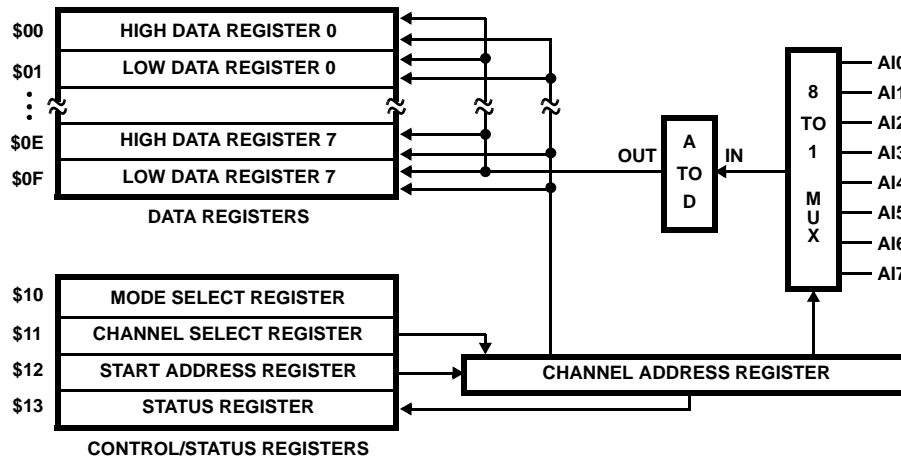

FIGURE 1. A PROGRAMMER'S MODEL OF THE CDP68HC68A2
From the programmer's perspective, the A2 is comprised of three control registers (Mode Select Register - MSR, Channel Select Register - CSR, and Starting Address Register - SAR), a status register (SR), an array of eight pairs of Data Registers, and one non-addressable, internal register (Channel Address Register). See Figure 1.
The format of the address/control byte is shown in Figure 4. The most significant bit is the  $\bar{R}/W$  bit. When  $\bar{R}/W$  is 0, read operations are to be performed. If  $\bar{R}/W$  is 1, write operations are to be performed. A0 through A4 specify the register to access. Data registers are mapped to address \$00 through \$0F. The Control and Status Registers are at locations \$10 through \$13 (See Figure 1).